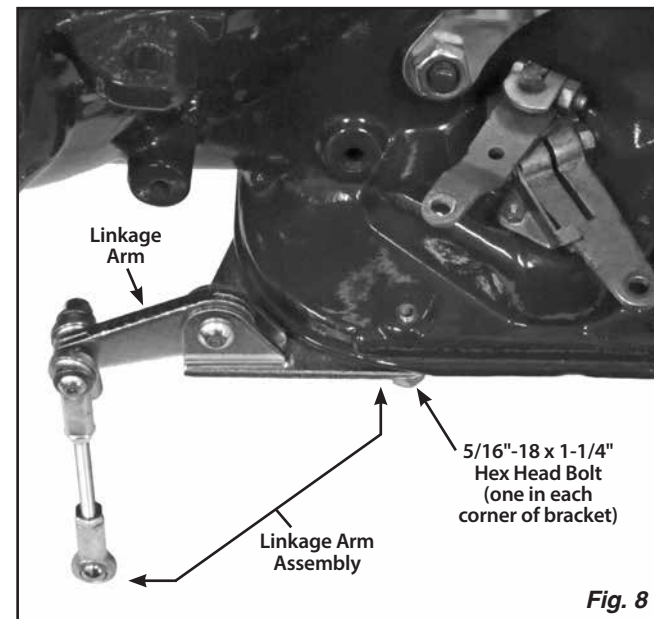

Fig. 8
**Step 12:** Remove the forward-most bolt from the left side of the transmission pan, and the bolt that is the furthest left on the front of the transmission pan. Remove the masking tape from the 5/16"-18 x 1-1/4" bolts on the provided linkage arm assembly. Install the linkage arm assembly onto the underside of the front left corner of the transmission pan. **Fig. 8**